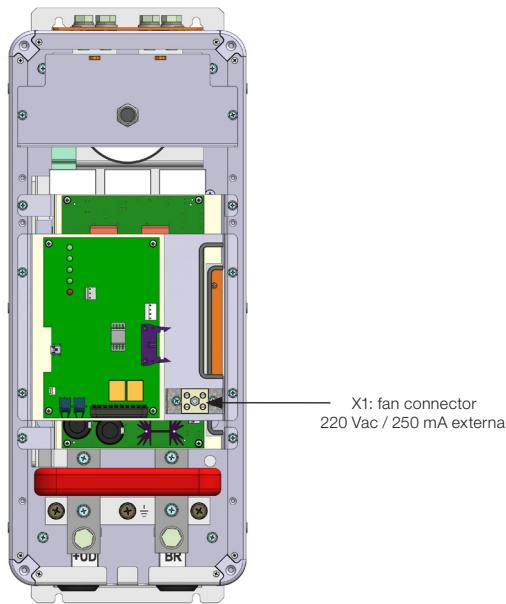

Figure 3.8: X1 terminal strip
- X1: Auxiliary power supply input for fan (220 Vac / 250 mA), see Figure 3.8 on page 20.